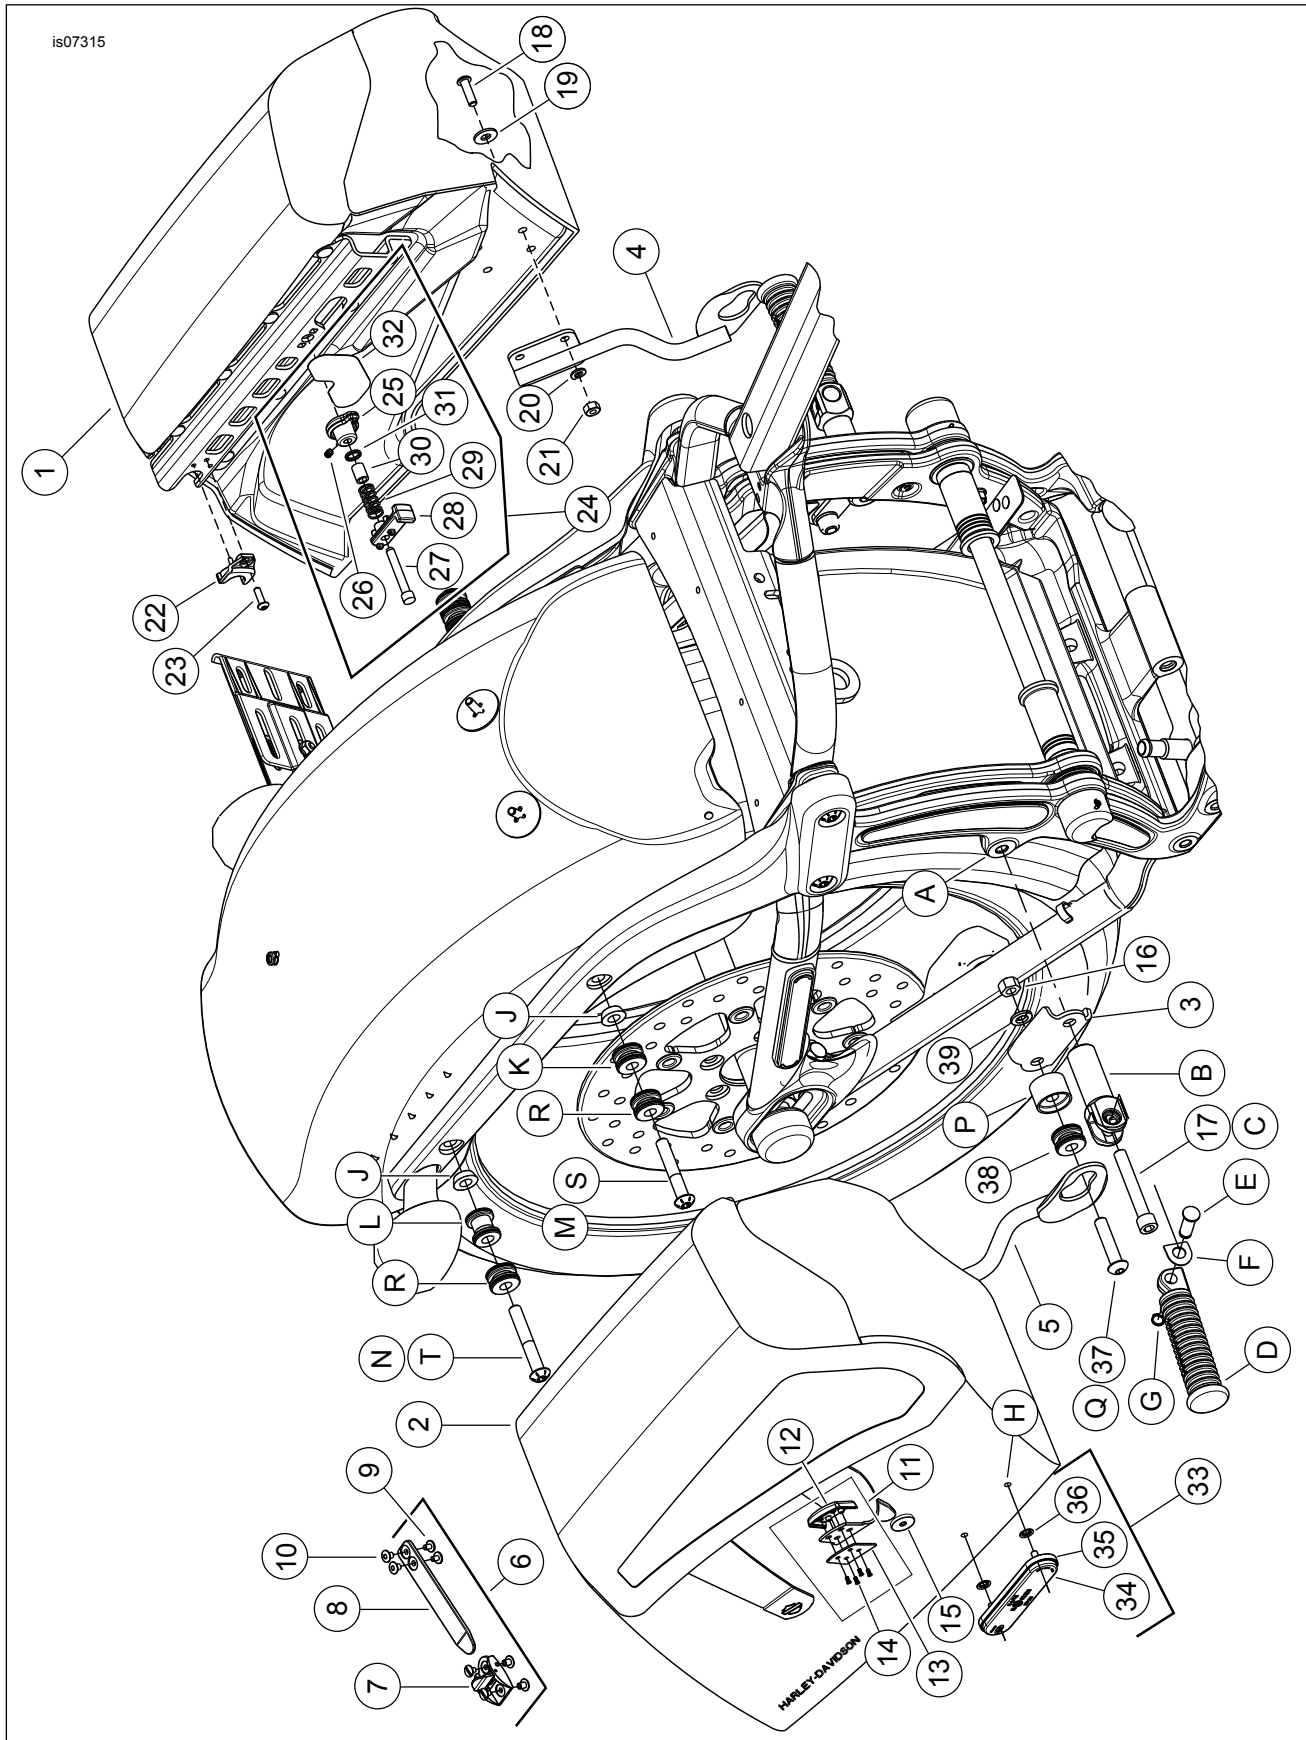

Figure 2. Service Parts: FXSB/SE Detachable Saddlebags
2. See Figure 2. Align support arm (4) with the four mounting holes of the left saddlebag (1).
3. Secure support arm (4) to saddlebag (1).
- a. Insert screw (18) through washer (19) and support arm (4) from inside the left saddlebag (1).
- b. Secure the screw with lockwasher (20) and hex nut (21). Tighten finger-tight. Do not fully tighten at this time.
4. Repeat procedure for right saddlebag (2) and support arm (5).
1. See Figure 2. Position reflector mount (35) near either the lower, forward side of saddlebag or rearward, just above the Harley-Davidson® logo.
3. Clean the surface of the reflector mount (35) where reflector will be installed with soapy water or a mixture of 50-70% isopropyl alcohol and 30-50% distilled water. Allow to dry thoroughly.
4. Remove the liner from the adhesive backing of the reflector (34). Carefully position the reflector to the reflector mount, and press firmly into place. Hold the reflector in position with steady pressure for at least one minute.
6. Install reflector mount (35) on saddlebag using two push nuts (36). The push nuts are installed from inside the saddlebag.
1. See Figure 2. Insert the posts of the rear docking spacer (22) into the rear of the saddlebag bracket.
2. Apply a small amount of Loctite 243 - Blue to the threads of screws (23) approximately 3–6 mm (1/8–1/4 in) from the screw head.
2. See Figure 2. Pull on knob (25) (located near the center, inside saddlebag) and rotate it towards front of saddlebag.
- Tighten 3rd point screws ( Figure 2, item 18) to 6.8–10.2 N·m (60–90 in-lbs).
- Tighten footpeg mount screws ( Figure 2, item 17) to 33.9–40.7 N·m (25–30 ft-lbs).